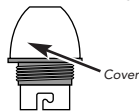

Fig. 1a Standard
3. Unscrew the top white cover from the body. See figures 1a. or 1b, as appropriate.